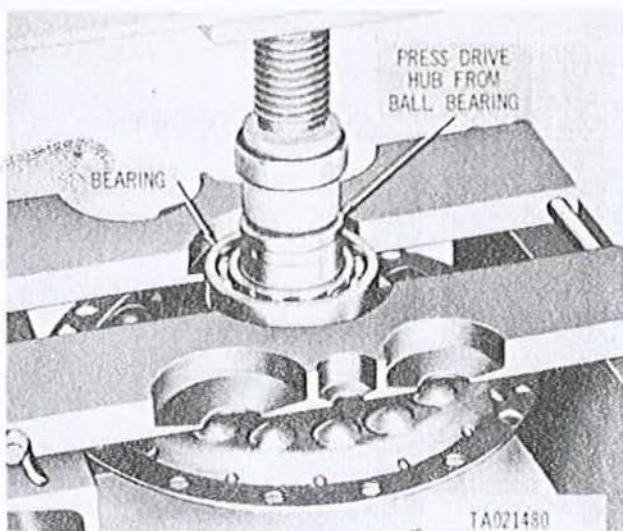

Figure 3-222. Removing or installing ball bearing from drive hub.
(3) Support outer ball bearing (fig. 3-222) and press drive hub (9, fig. 3-220) from ball bearing.